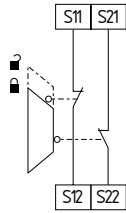

Fig. 6
**Dual-channel guard door monitoring circuit with interlocking device to EN 1088 (Fig. 6)**